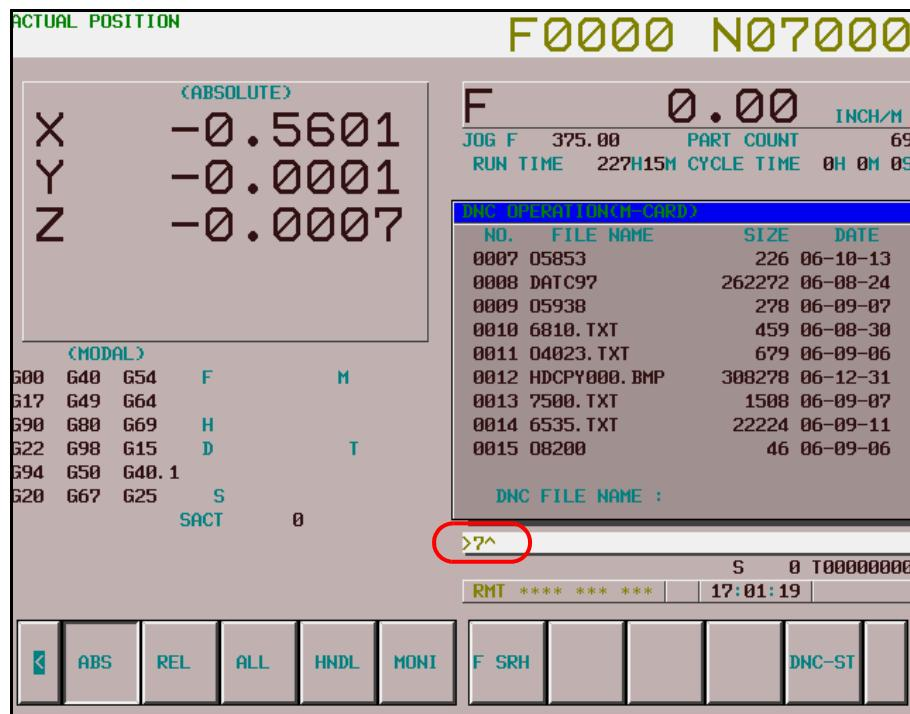

Figure 3-7: File No. to be executed
7. Press the [DNC-ST] softkey (Figure 3-7:), the file name will be displayed in the right side of DNC FILE NAME: